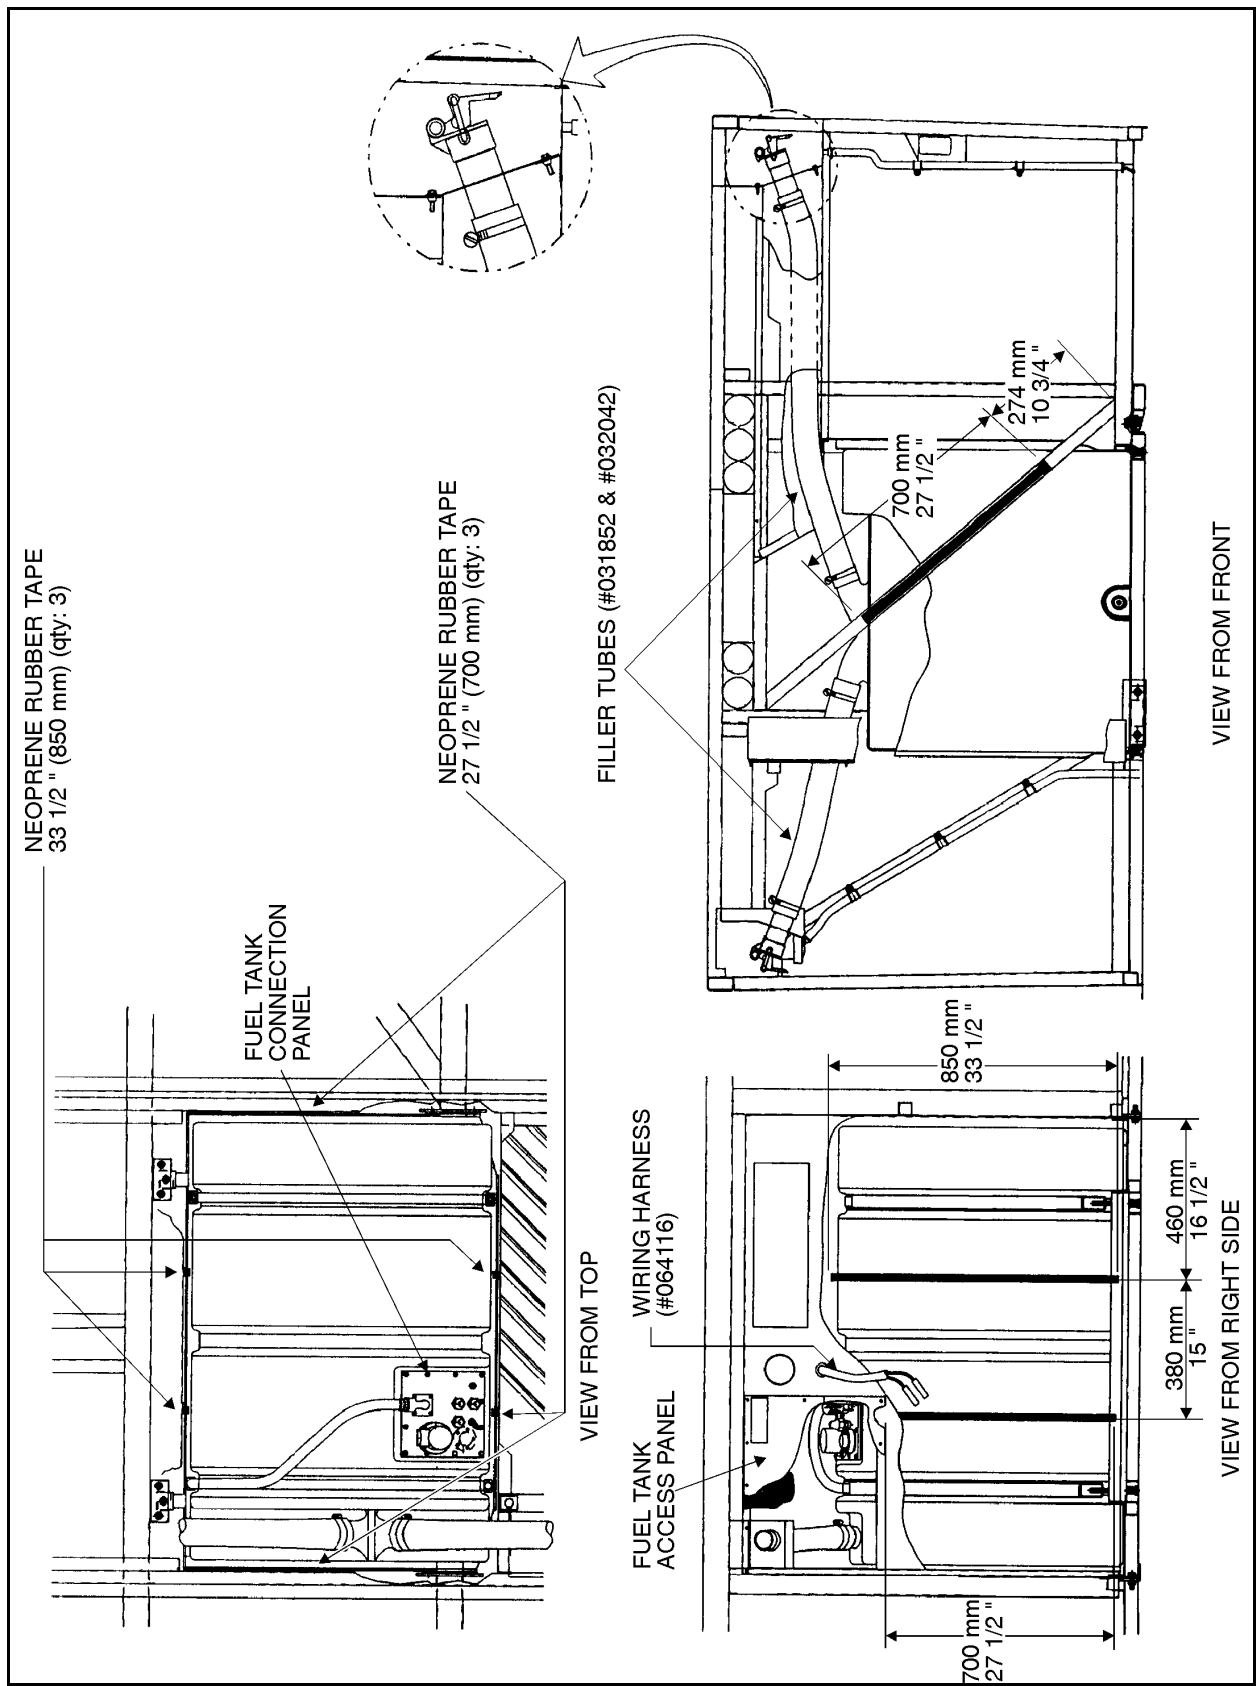

FIGURE 1: POLYETHYLENE FUEL TANK
5. Cut neoprene rubber tape (Prévost #506007) at appropriate length ( $33\frac{1}{2}$ " (850 mm), Qty:3;  $27\frac{1}{2}$ " (700 mm), Qty: 3). Spray aerosol adhesive at the appropriate positions on the fuel tank section walls (Fig. 1). Install neoprene rubber tape on walls of fuel tank section.